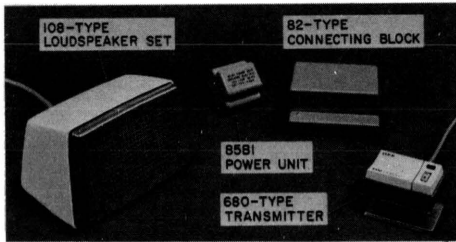

Fig. 3—Components of 4A Speakerphone System
- 2.03** Components of the 4A speakerphone system are shown in Fig. 3.